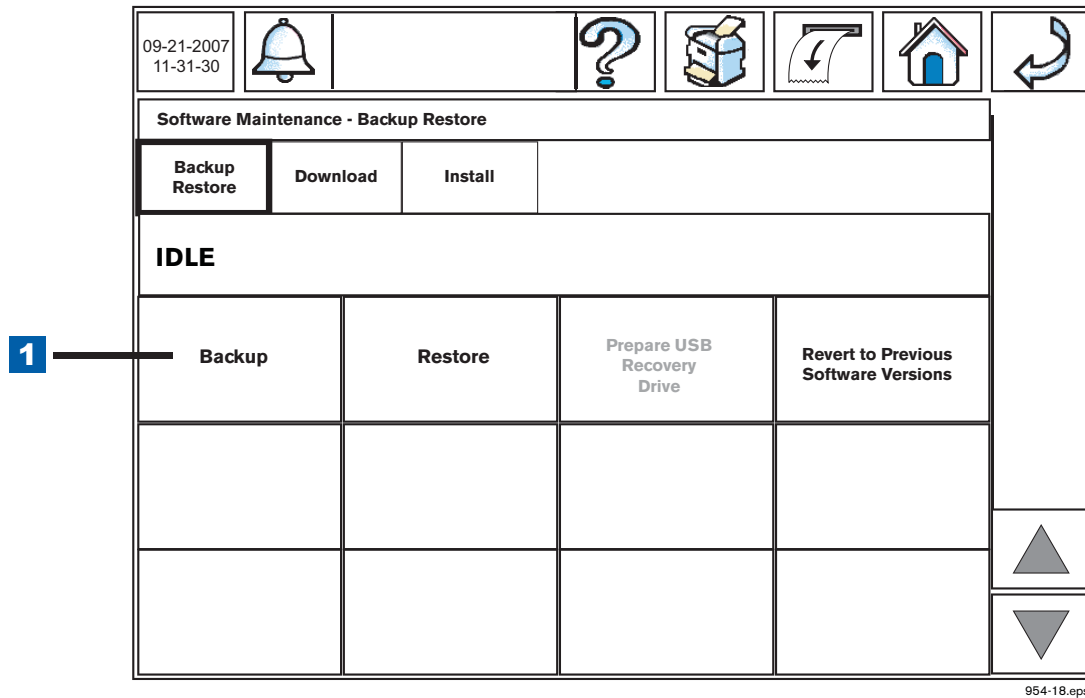

Figure 5. Initiating a System Backup
- Figure 5. Initiating a System Backup 7
- 6. Touch the Software Maintenance button on the Diagnostic Maintenance screen (see Figure 4) to open the Software Maintenance - Backup Restore tab screen (see Figure 5).
7. Touch the Backup button (item 1 in Figure 5) to begin the system backup process.
LEGEND FOR NUMBERED BOX IN Figure 5
7. Touch the Software Maintenance button on the Diagnostic maintenance screen (Figure 4) to open the Software Maintenance Backup Restore tab screen (Figure 5).